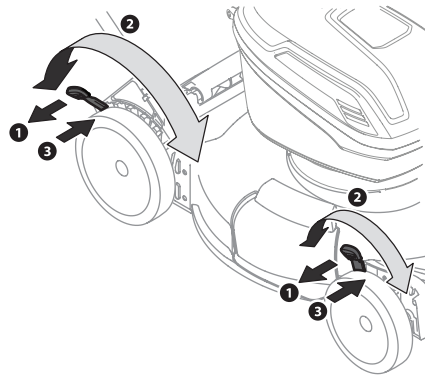

Figure 2-12
2. Move lever to desired position for a change in cutting height. See Figure 2-12.